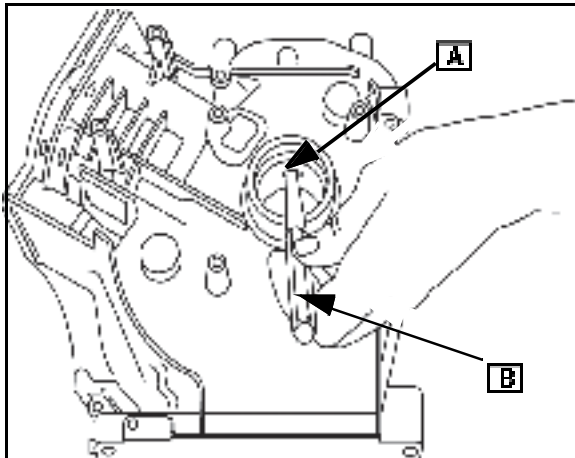

Fig. 26
4. Stake the bearing in place by driving a long punch (B) against the edge of the oil hole ([A] Fig. 26).